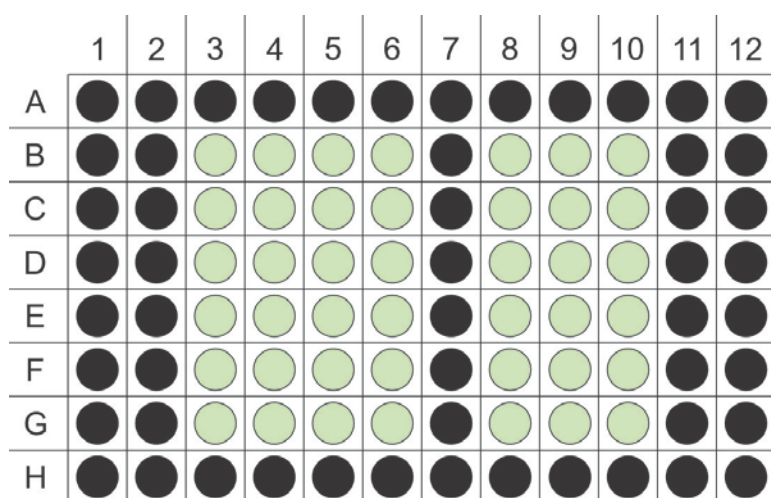

Figure 2: Cell seeding into a 96-well plate.
- Seed 8000 cells in 200 µl complete cell culture medium per well into a 96-well cell culture plate. Stick to the pipetting scheme given in Figure 2.
- For one 96-well plate (see Figure 2) 4×10^5 cells are suspended in 10 ml complete cell culture medium (4×10^4 cells/ml). To assess three time points of NM incubation (3 h, 24 h and 72 h) prepare three identical plates using 1.2×10^6 cells suspended in 30 ml complete cell culture medium.
- Using a multichannel pipette (6 channels) 200 µl of this cell suspension are distributed into each of the green wells (B3 to G6 and B8 to G10, Figure 2).
- Black wells (Figure 2) receive 200 µl complete cell culture medium only.
- Incubate cells overnight (ON) in a humidified incubator at standard growth conditions.